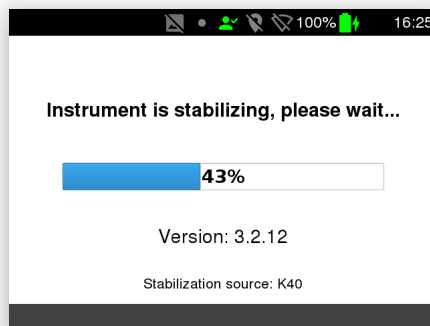

Figure 20: Initial Stabilization after identification of the stabilization source
The contents of this area change to the current mode of operation of your RAD EAGLE. This may be status information after powering up the instrument (Fig. 20, p. 30), menus to choose from (Fig. 33, p. 42), alarms (Fig. 31, p. 38), or measurement results (Fig. 25, p. 33).
7. When the stabilization source is identified it is shown (Fig. 20, p. 30).